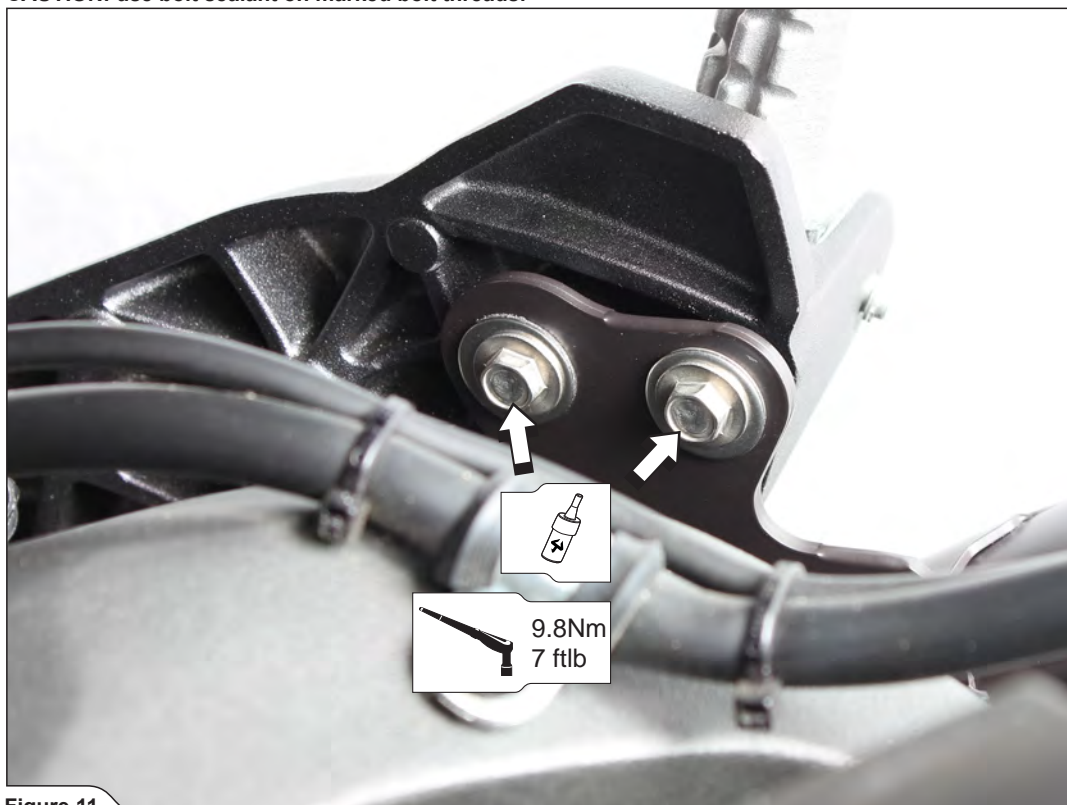

Figure 11
3. Align the mufflers in respect to the motorcycle and tighten the muffler's bracket bolts to the specified torque (Figure 11).